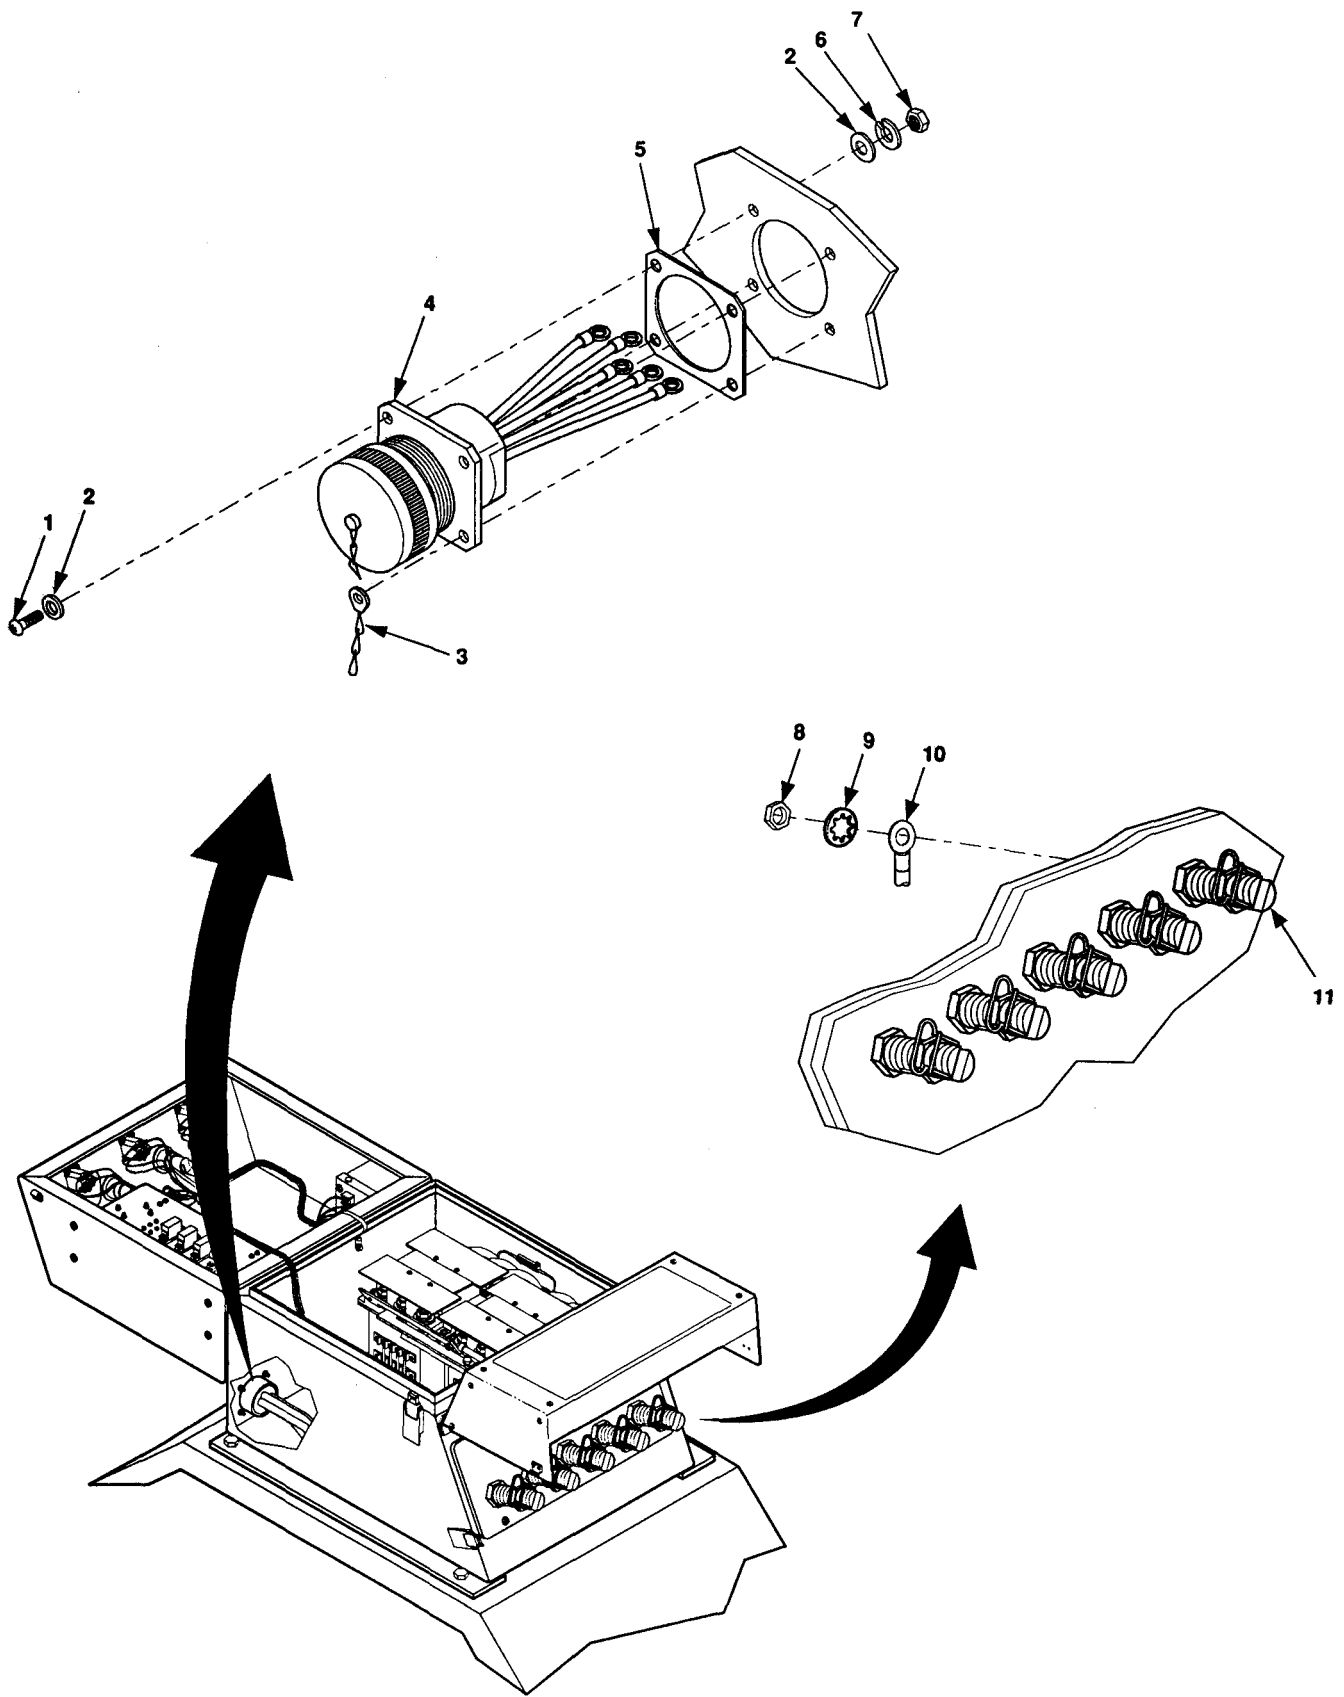

Figure 5-15. Output Connector Harness.
1. Remove nuts (8, figure 5-15) and internal tooth washers (9) from switch box load terminals (11).